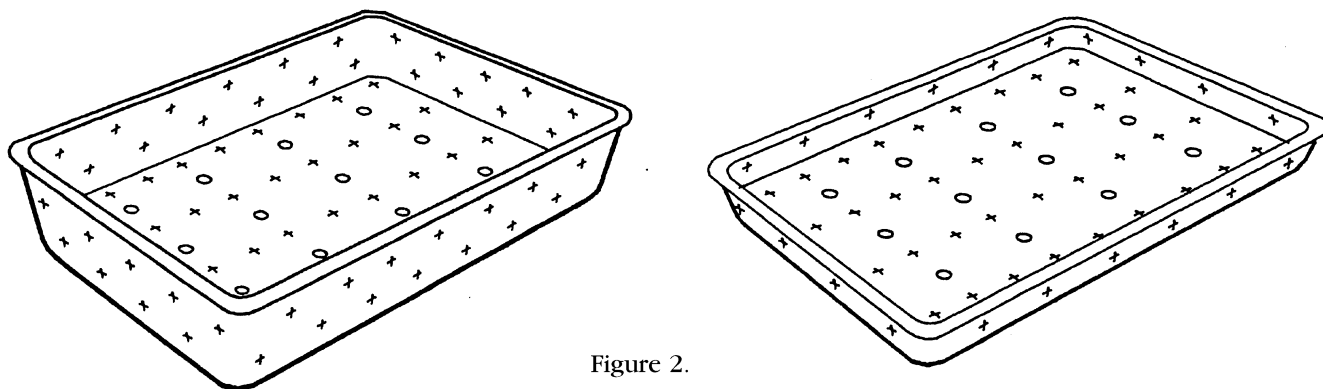

Figure 2.
- Rectangular "cake pan" type or flat trays with holes are not preferred for heavy surgical instrument sets but if they must be used, be certain that the holes in the tray are large enough and in the correct position for drainage. Note that in the picture, an "X" denotes where additional holes might be drilled for more efficient drainage. These trays are more appropriately used for small "treatment" trays such as cut-down, suture, lumbar puncture, etc. These sets generally contain few metal instruments, so less steam condenses on the instruments, and they are more easily dried (Figure 2).